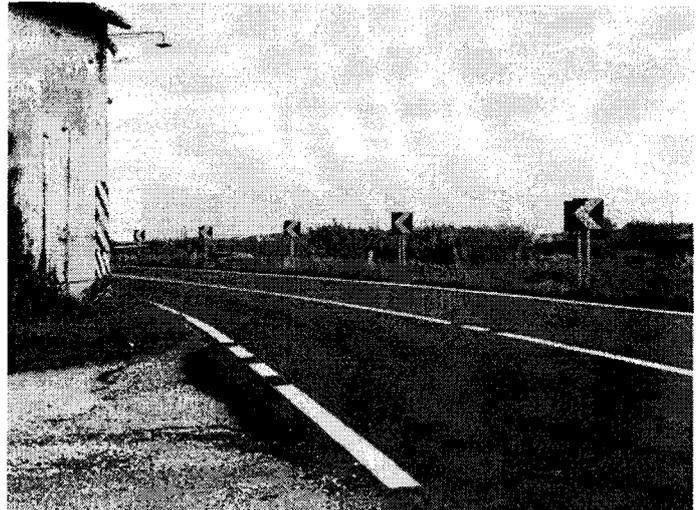

Fig.6
- Do you use vertical sign like example shown in Fig.6?